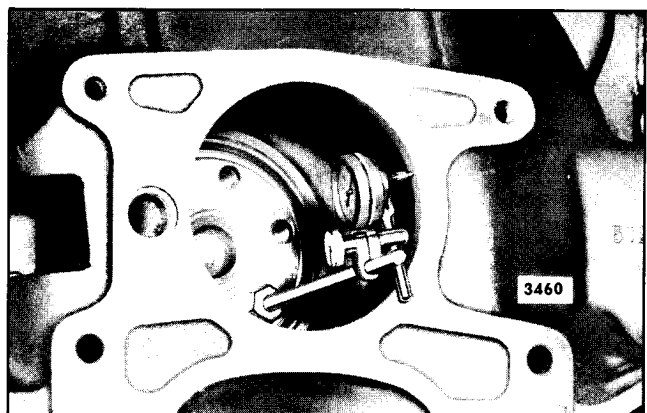

Fig. 10 - Checking Bore Runout
- b. Install the dial indicator J 8001-3 and position it to read the bore runout of the housing (Fig. 10). Now check the runout by rotating the crankshaft. The runout should not exceed .008".